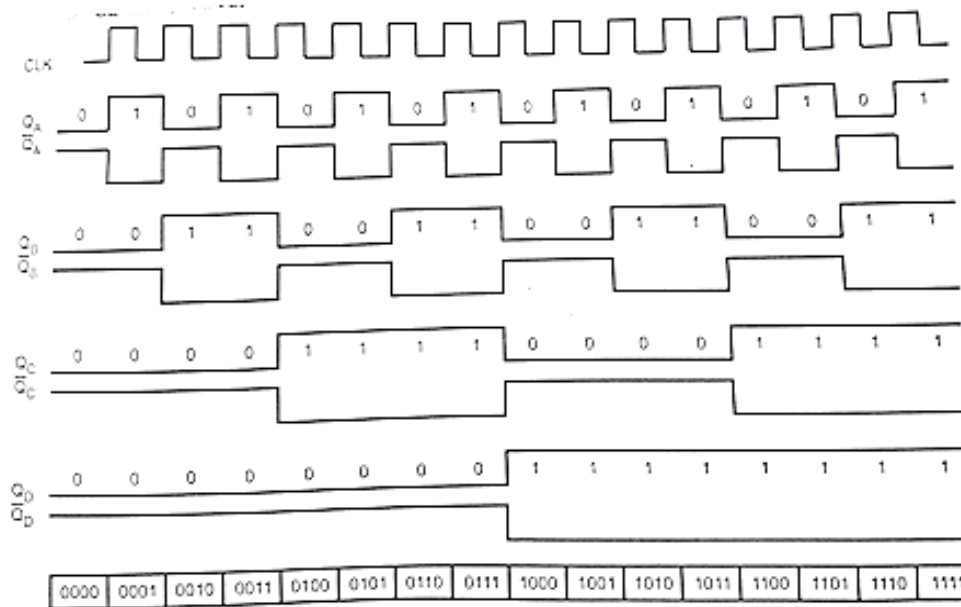

Figure 3.8: Timing diagram of the 4-bit counter
- The figure 3.8 Shows the timing diagram for 4-bit ripple up counter using positive edge triggered JK-FFs.